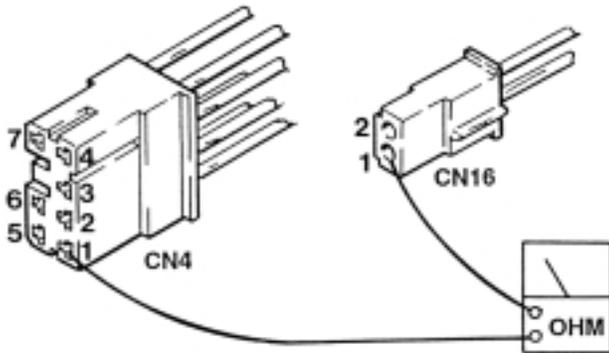

Figure 6-17
2. Using an ohmmeter, test for continuity between pins 1 and 2 of CN4 and pins 1 and 2 of CN10. See figure 6-17.